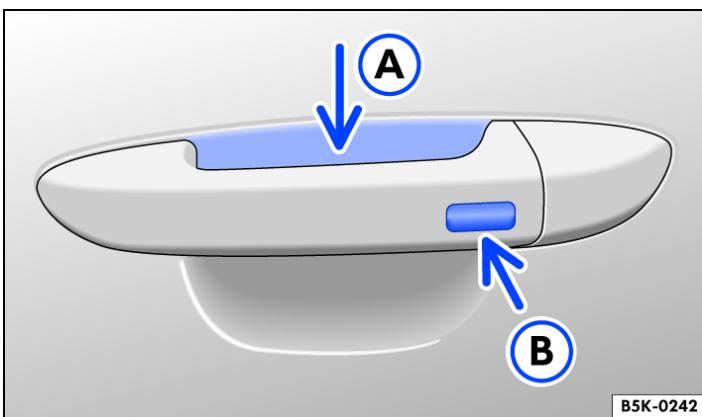

Fig. 2 In the door handle: sensors.
- Touch sensor → Fig. 2 A on the inside of the driver or front passenger door handle.
- Touch sensor → Fig. 2 B on the outside of the driver or front passenger door handle.
- Then touch the sensor on the outside of the door handle once within five seconds → *Fig. 2* . Do not put your hand around the door handle when doing this.
- Place a finger on the sensor of the driver or front passenger door handle for a few seconds → *Fig. 2* .